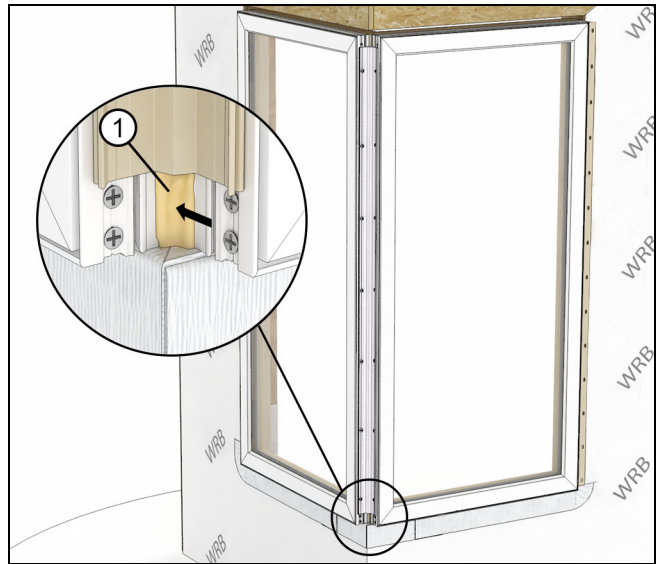

Figure 48
15. Apply and tool silicone on the exterior frame ensuring all the exposed wood at the sill are covered. See Figure 48.